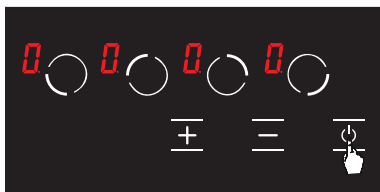

Figure 8
1. Turn the stove on by pressing the button. (See Fig. 8)